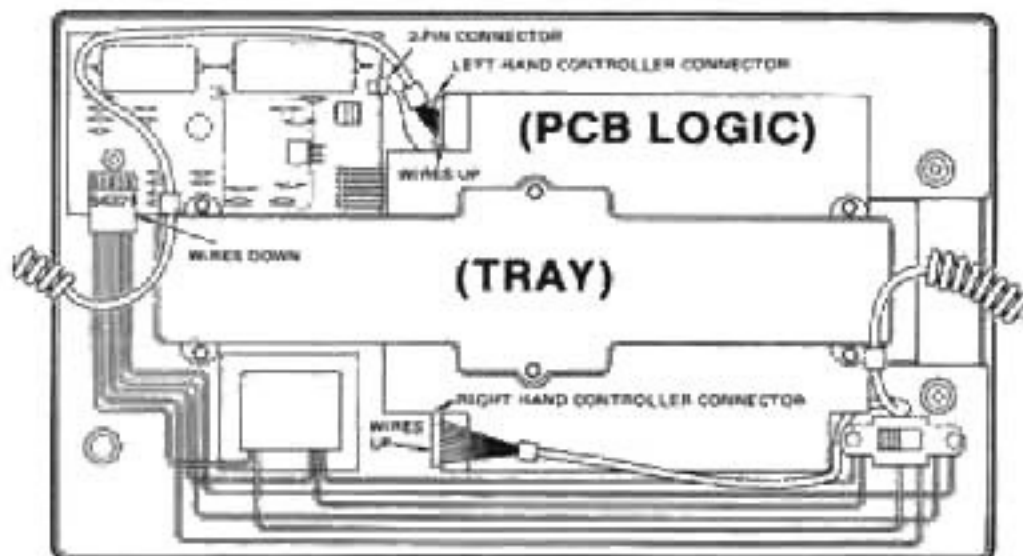
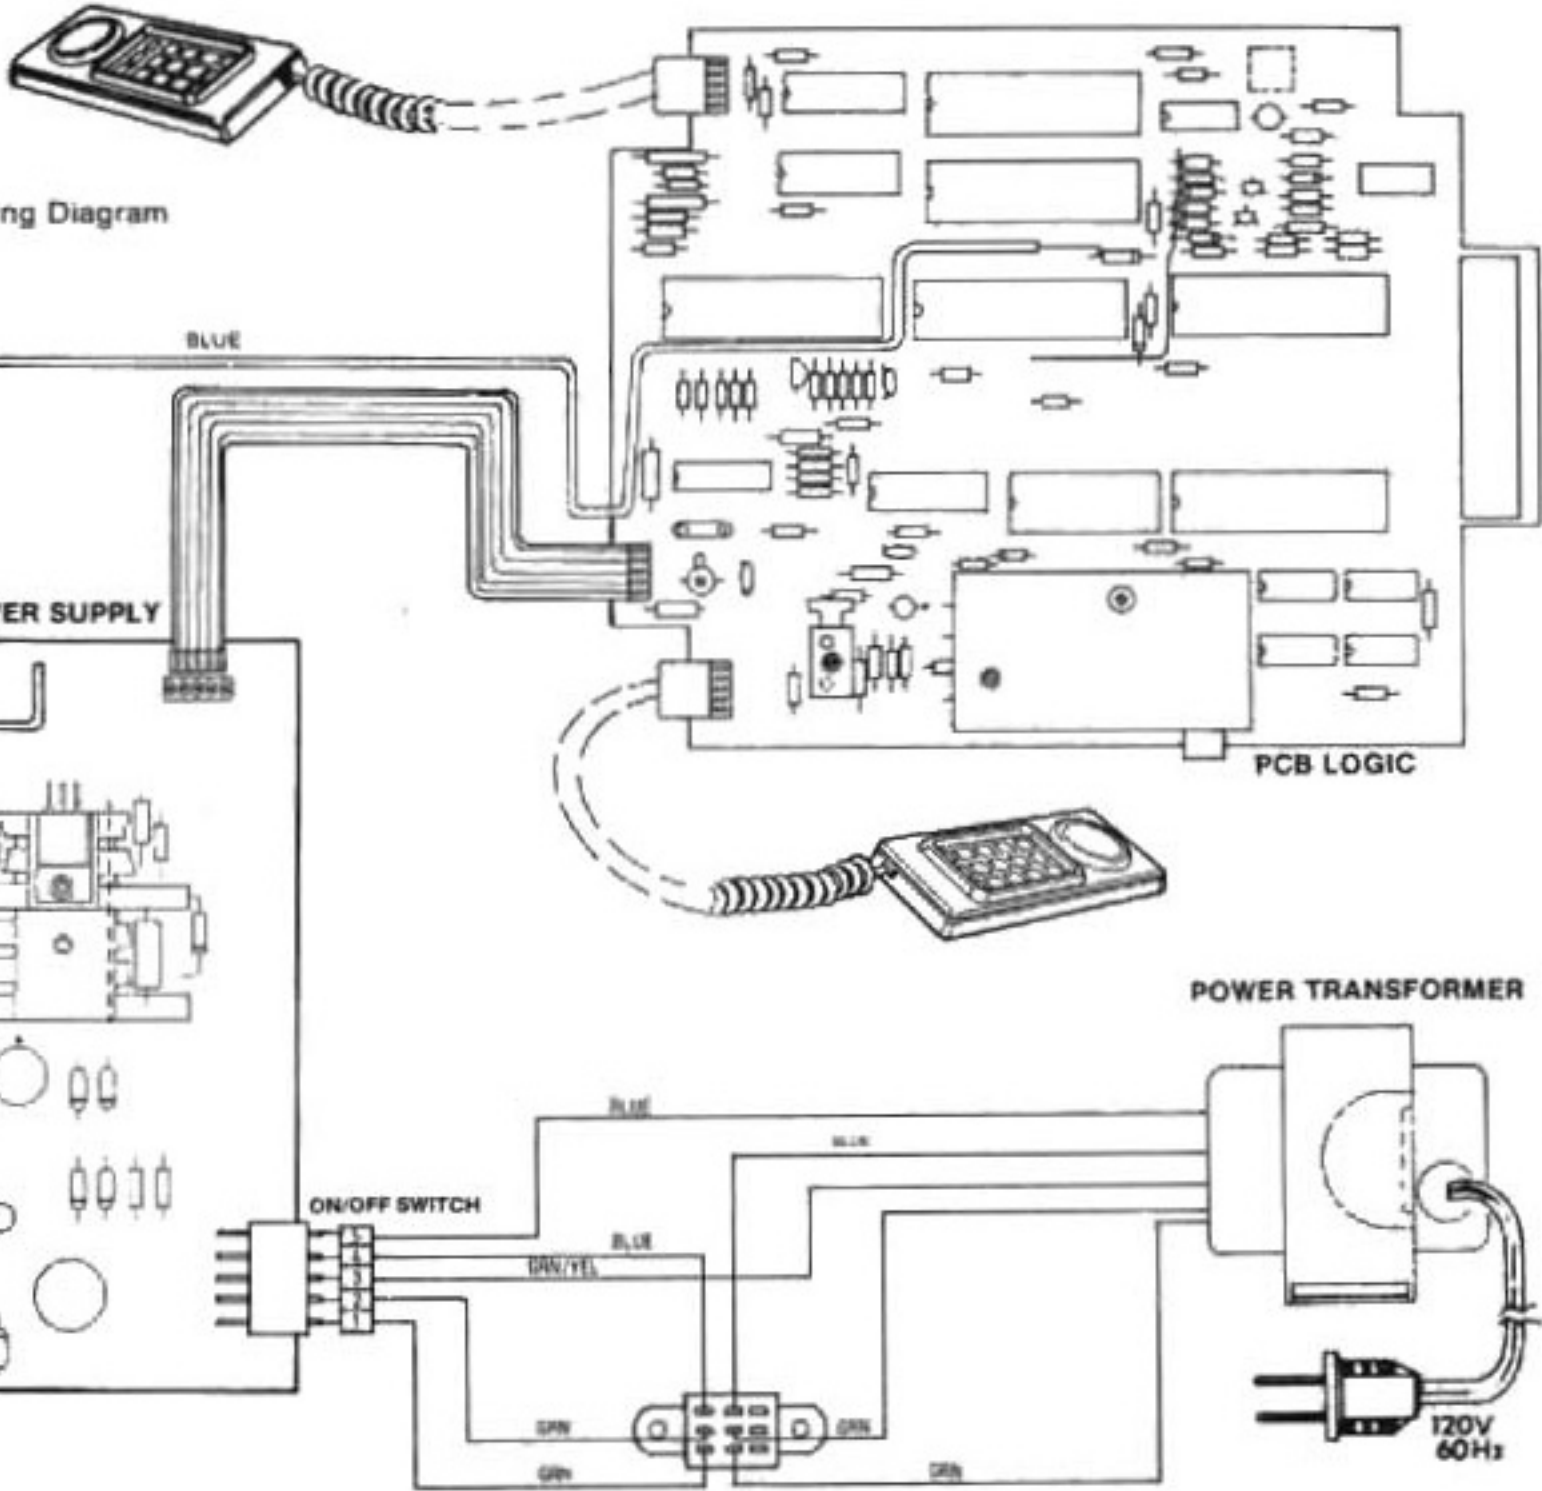
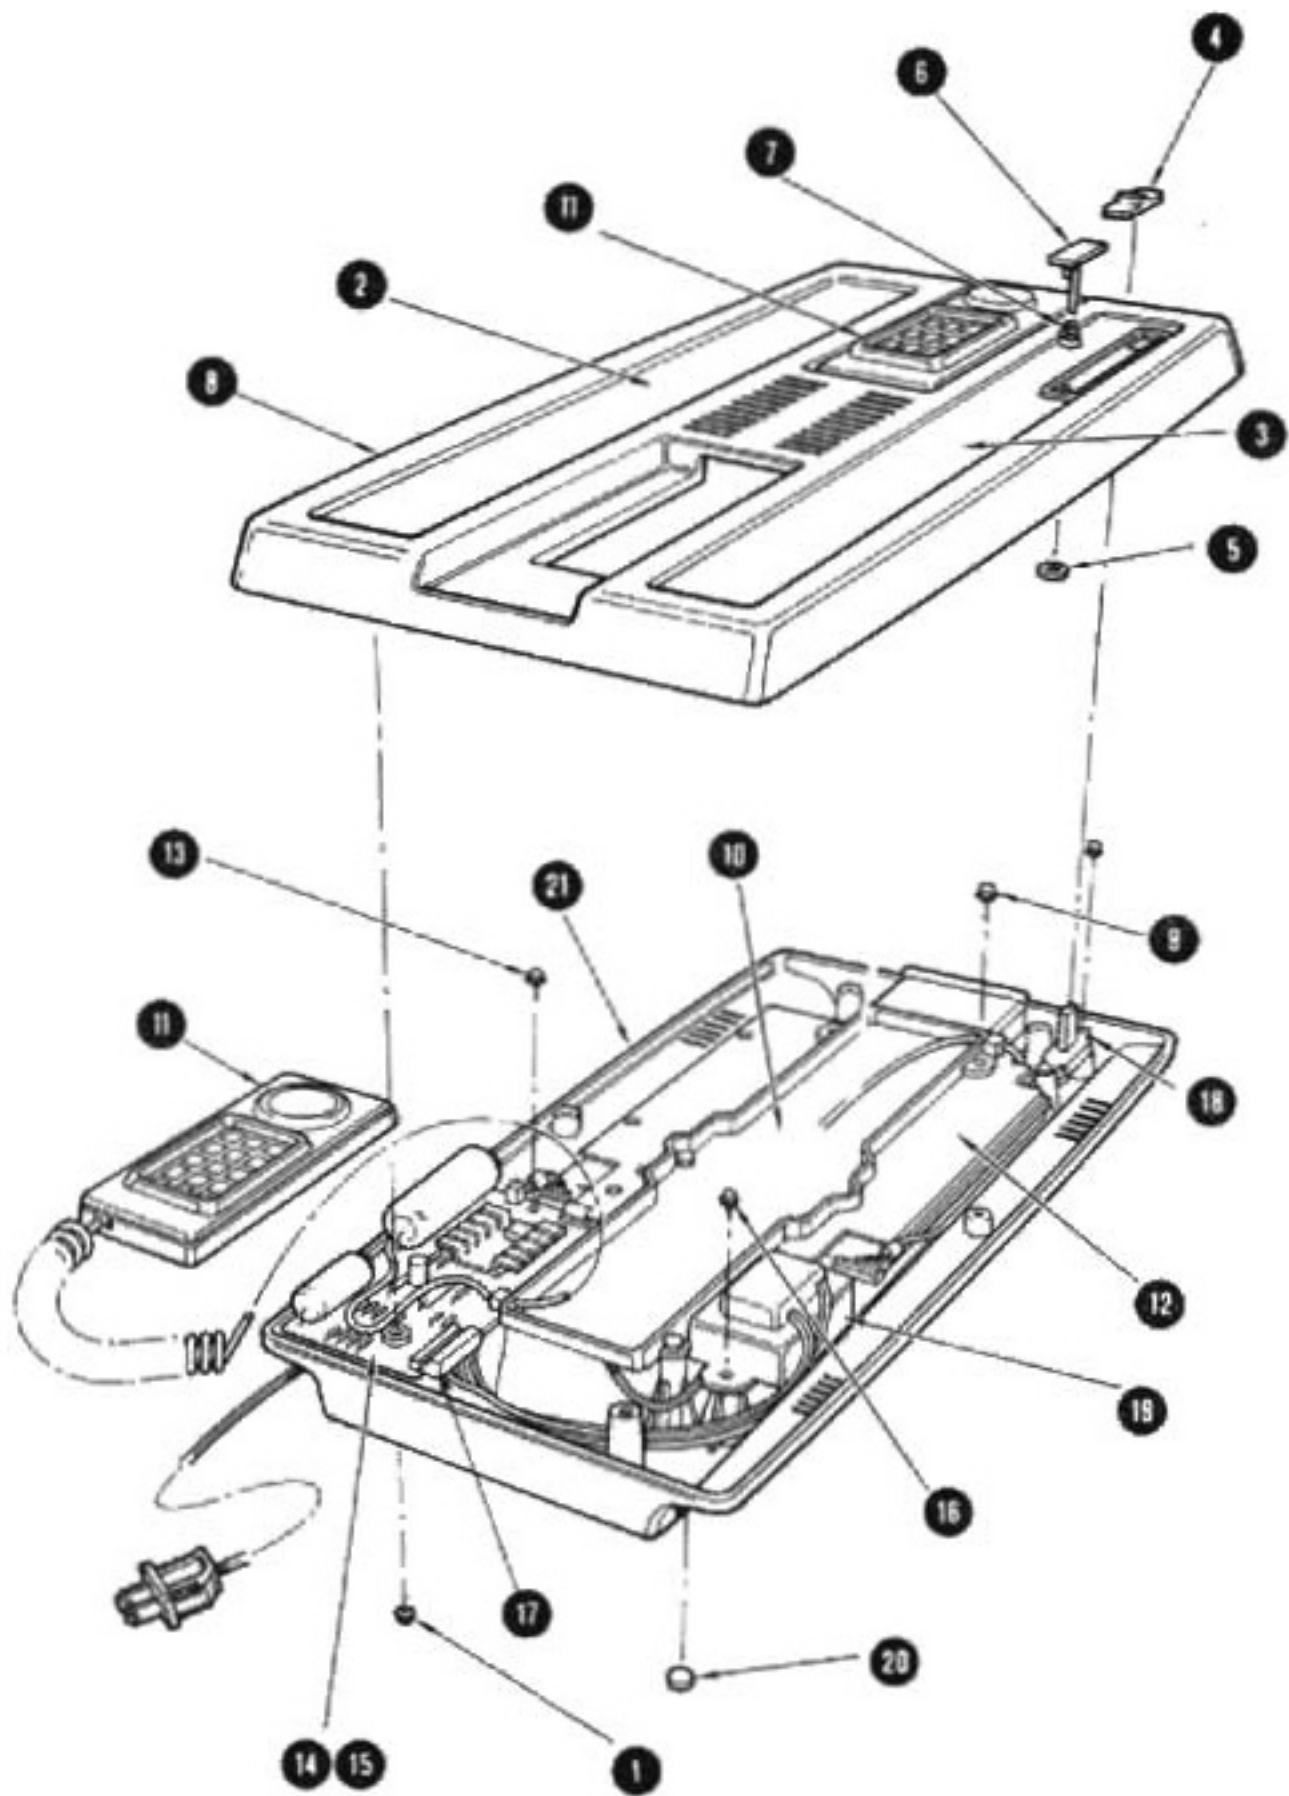

Figure 5-1 Connector Installation Diagram
Figure 5-2 Wiring Diagram
Figure 6-1 EXPLODED VIEW Console Assembly
NOTES: 1 INDEX NUMBERS REFER TO FIGURE 6-1.
5-2. ASSEMBLY OF CONSOLE ASSEMBLY. Refer to Figure 6-1 (Page 6-3) and assemble the console assembly as follows:
a. If disassembled, reassemble transformer (19), switch (18), connector (17) and associated wiring in accordance with Figure 4-11 and Wiring Diagram (Figure 5-2).
b. Install transformer/switch assembly in bottom housing (21). Route wiring as noted during disassembly. Secure assembly in place with four screws (16).
c. Install insulator (15) in bottom housing. Install PCB-Power Supply (14) on insulator in bottom housing assembly. Secure PCB Power Supply to bottom housing with two screws (13).
d. Connect the 5-pin connector (17) from the transformer/switch assembly to the PCB Power Supply (14) as illustrated in Figures 5-1 and 5-2.
e. Connect the hand controller assemblies (11) cable connector to the PCB Logic (12) as illustrated in Figures 5-1 and 5-2. Route hand controller cables in bottom housing assembly (21) as noted during disassembly. Place the PCB Logic in bottom housing assembly.
f. Carefully connect the 5-pin ribbon cable (42, Figure 6-3) and 2-pin connector (58) from the PCB Logic (12, Figure 6-1) to the PCB Power Supply (14) as illustrated in Figures 5-1 and 5-2.
g. Install tray (10) in bottom housing assembly (21) and secure in place with six screws (9).
h. If removed, install spring (7), reset button (6) and fastener (5) on top housing assembly (8).
i. Slide hand controller assemblies (11) through openings in top housing assembly (8). Install top housing assembly on bottom housing assembly (21).
k. Carefully invert console assembly and secure top housing assembly (8) to bottom housing assembly (21) with six screws (1).
b. Locate the desired part on Figures 6-1 through 6-4 and note the numerical index number or reference designator of the part, as applicable.
6-2. DETAILED PARTS LIST. Replaceable parts and assemblies for the Mattel Intellivision Master Component are illustrated in Figures 6-1 through 6-4 and identified by index number in the associated detailed parts lists.